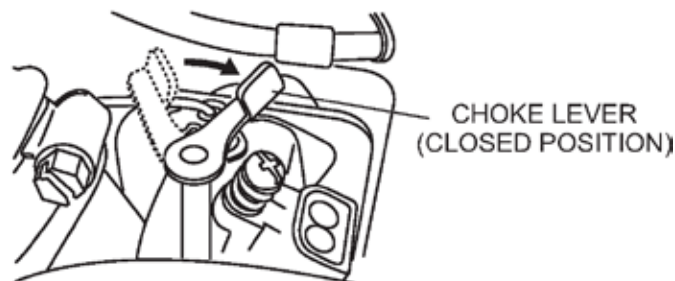

**Figure 7. Purge Bulb**
2. Carburetor Purge System: Push the purge bulb 4 times or until you see fuel in the bulb (Figure 7).